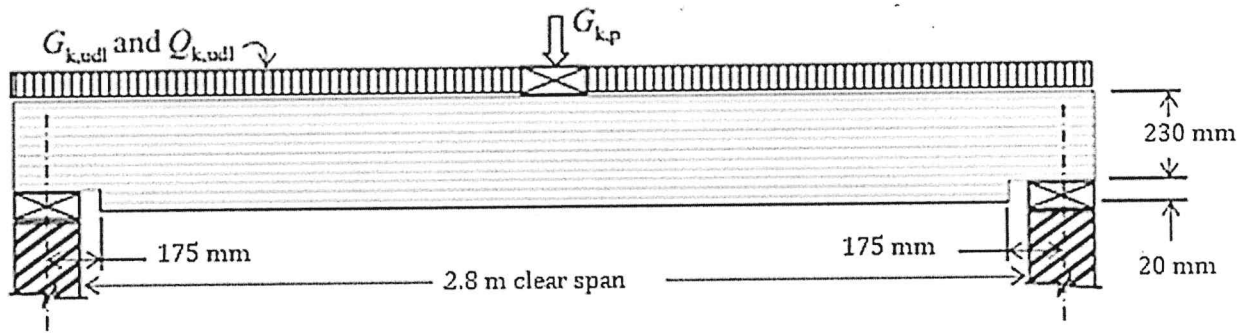

Figure Q2a
- (a) A 75 mm by 250 mm deep sawn timber beam (**Figure Q2a**) in a domestic residence supports the characteristic uniformly distributed permanent action ( $G_{k,udl}$ ) (excluding self-weight), Medium term variable action  $Q_{k,udl}$  and an independent Permanent concentrated action  $G_{k,p}$  of 0.8 kN/m, 2.3 kN/m and 1.1 kN respectively. The beam has a clear span of 2.8 m, the bearing length has been restricted to 100 mm at each end, is of strength class C27 to BS EN 338:2003, and functions in service class 2 conditions. The beam is laterally restrained against lateral buckling along its length and is notched at its ends by 20 mm, extending 175 mm into the beam from the centre of each support position. The notches are on the same side as the beam supports. Carry out a design check to confirm that the beam will meet the ULS design requirements of EC5. (17 marks)